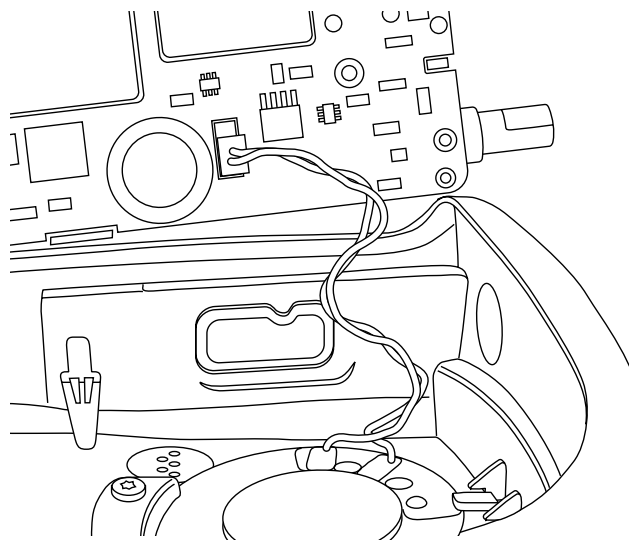

Figure 2-12. Connect Speaker Wire Assembly
- c. Connect the speaker wire assembly into the 2-pin connector on the main board and bend the wires at the board connector so the wires are positioned toward the top of the radio (Figure 2-12).